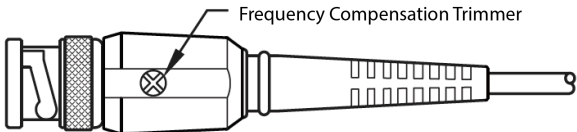

Figure 1: Trimmer on BNC
- Turn trimmer (Figure 1) to adjust the compensation on the probe making a flat pulse top.